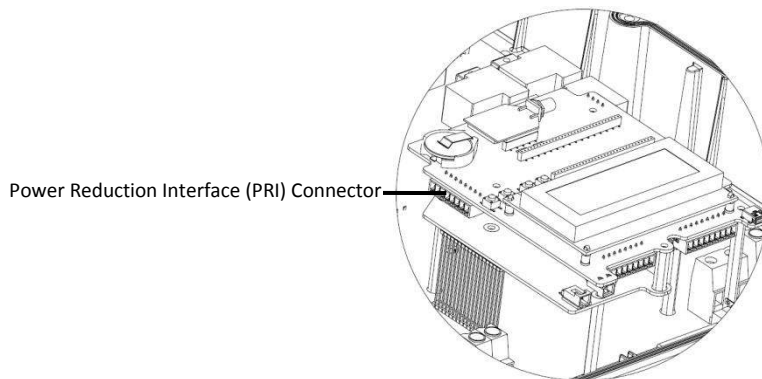

Figure 1 – PRI Interface Input
1. Connect the RRCR² directly to the SolarEdge inverter communication board through the Power Reduction Interface (PRI) connector. Figure 1 shows the location of the connector. The connector is an 8-port terminal block.
2. Connect the RRCR³ directly to the SolarEdge inverter communication board through the Power Reduction Interface (PRI) connector. Figure 1 shows the location of the connector. The connector is an 8-port terminal block.